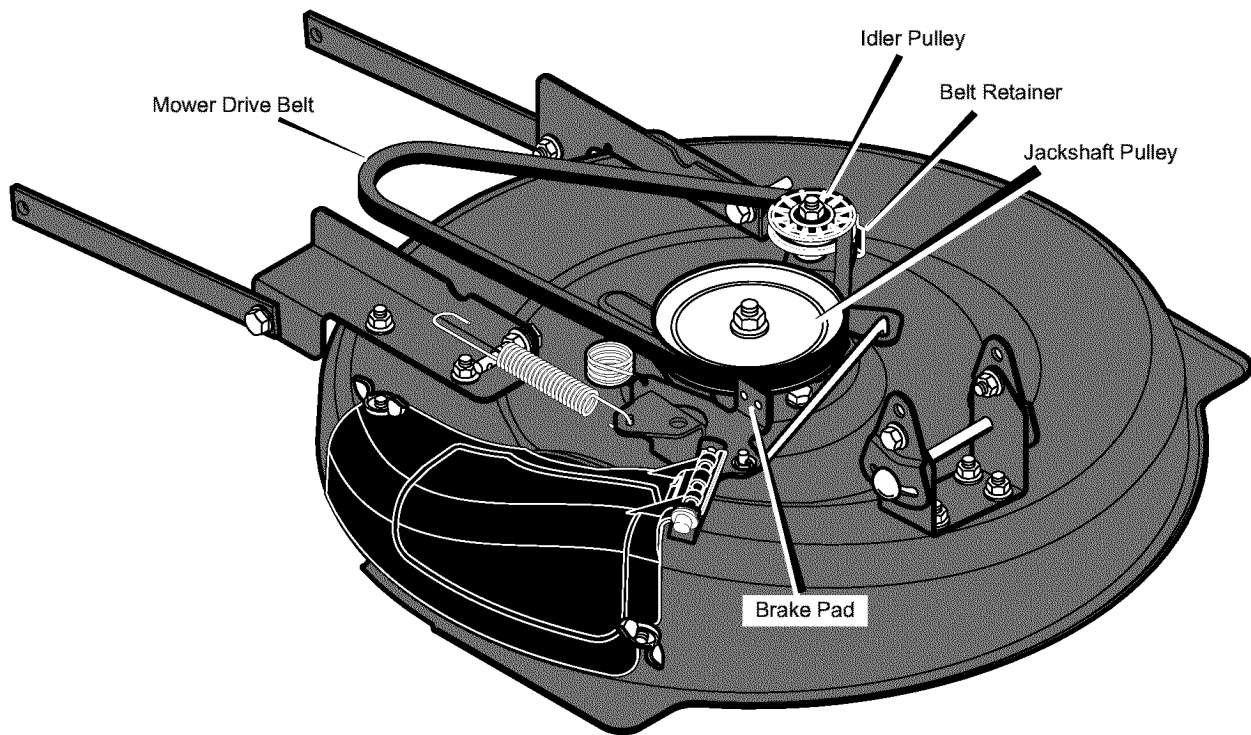

Figure 35
2. Pull the **belt retainer** away from the **idler pulley** and remove the **mower drive belt** (Figure 35).